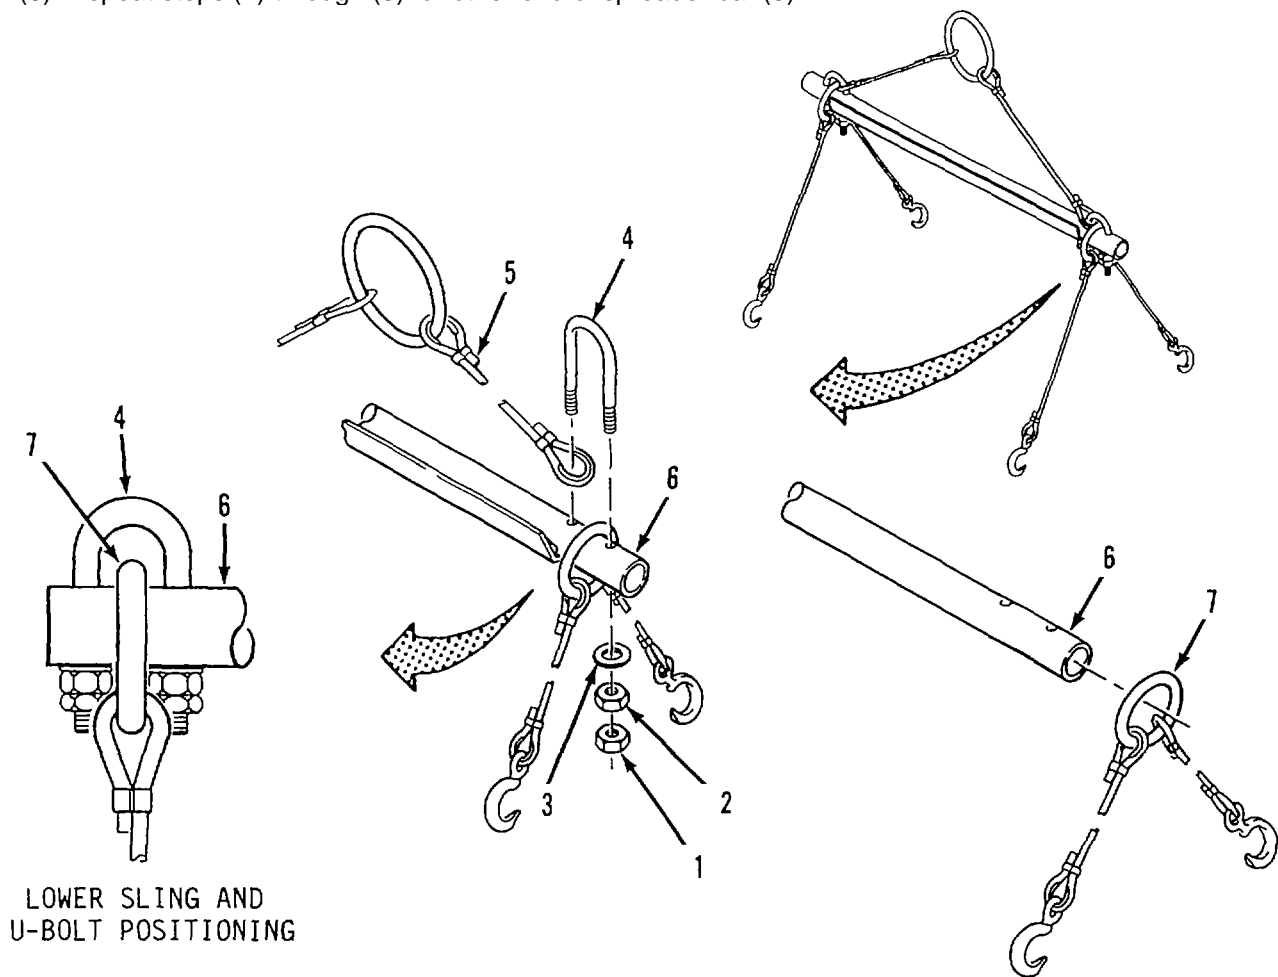

Figure 4-15. Sling Repair
- a. Disassembly. Refer to figure 4-15.
- (1) Remove two nuts (1), nuts (2) and flatwashers (3) from u-bolt (4).
- (2) Remove u-bolt (4) from spreader bar (6).
- (3) Separate u-bolt (4) from loop in upper sling (5).
- (4) Remove lower sling (7) from spreader bar (6).
- (5) Repeat steps (1) through (4) for other end of spreader bar (6).
- (1) Inspect spreader bar (6) for cracks, enlarged u-bolt mounting holes and corrosion. Inspect for bent spreader bar.
- (2) Inspect upper and lower slings (5 and 7) for frays, kinks and broken strands of wire. Inspect hooks and rings for cracks.
- (3) Inspect u-bolt (4) and nuts (1 and 2) for damaged threads and corrosion.
- e. Assembly. Refer to figure 4-15.
- (1) Position ring of lower sling (7) over end of spreader bar (6). Center ring between u-bolt mounting holes.
- (2) Place inside leg of u-bolt (4) through loop in upper sling (5).